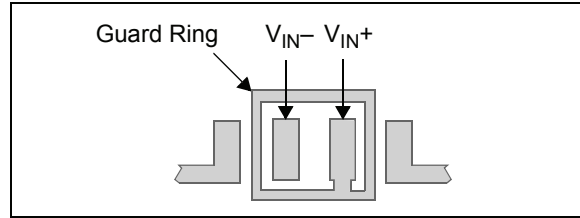

FIGURE 4-4: Example Guard Ring Layout.
The easiest way to reduce surface leakage is to use a guard ring around sensitive pins (or traces). The guard ring is biased at the same voltage as the sensitive pin. Figure 4-4 is an example of this type of layout.
1. Inverting Amplifiers (Figure 4-4) and Trans-impedance Gain Amplifiers (convert current to voltage, such as photo detectors).